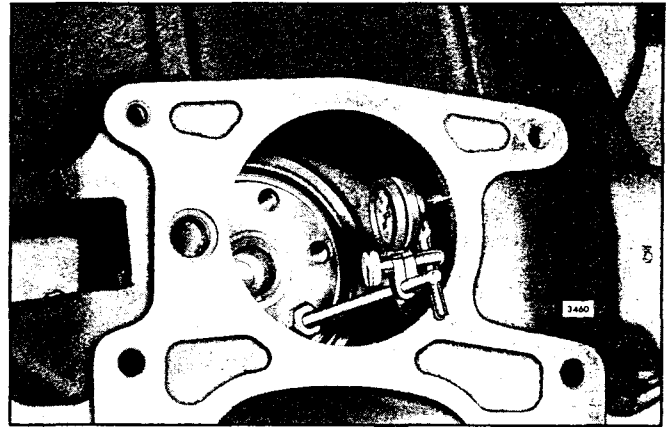

Fig. 10 - Checking Bore Runout
- b. *Install the dial indicator J 8001-3 and position it to read the bore runout of the housing (Fig. 10). Now check the runout by rotating the crankshaft. The runout should not exceed .008".*